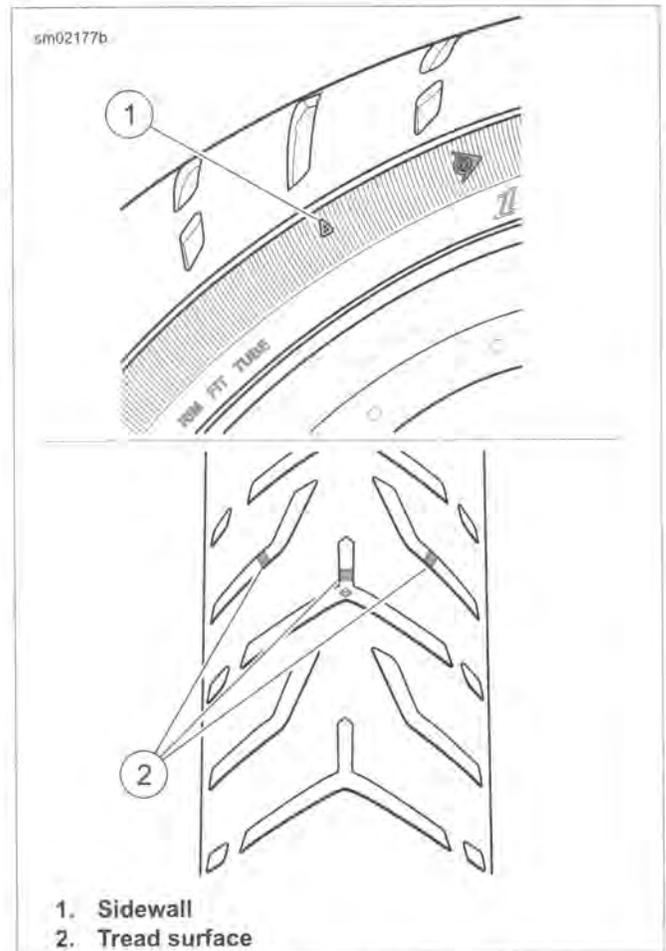

Figure 2-37. Tread Wear Indicators (Typical)
- See Figure 2-37. The tread wear indicator bars will appear on tire tread surfaces when 1/32 in (0.8 mm) or less of tread remains. Always replace tires before they reach the tread wear indicator bars.